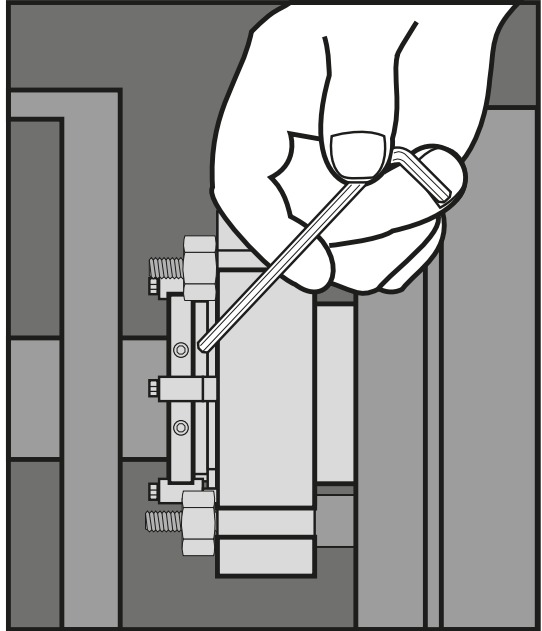

Figure 9
2.7 With the impeller, shaft, coupling, and bearings in their final operating positions, **tighten the 84/85 set screws**. See Figure 9.